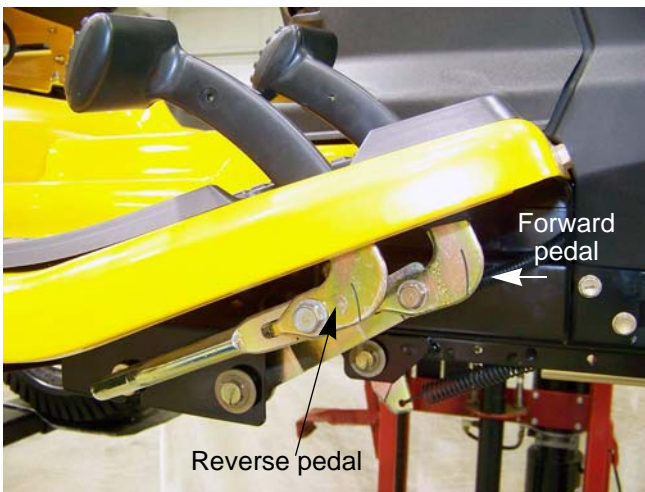

Figure 4.21
9. Remove the reverse drive pedal using a 9/16" wrench. See Figure 4.21.